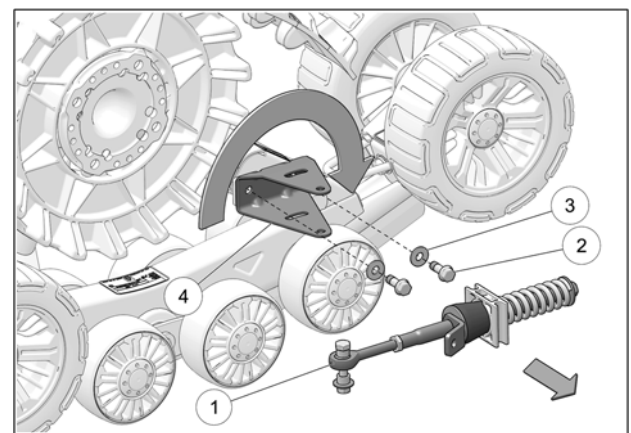

Fig. 19
4. Remove anti-rotation arm (1). Then remove bolts (2) and washers (3) securing anti-rotation bracket (4) to front Track system. Pivot anti-rotation bracket (4) 180°. See Fig. 19